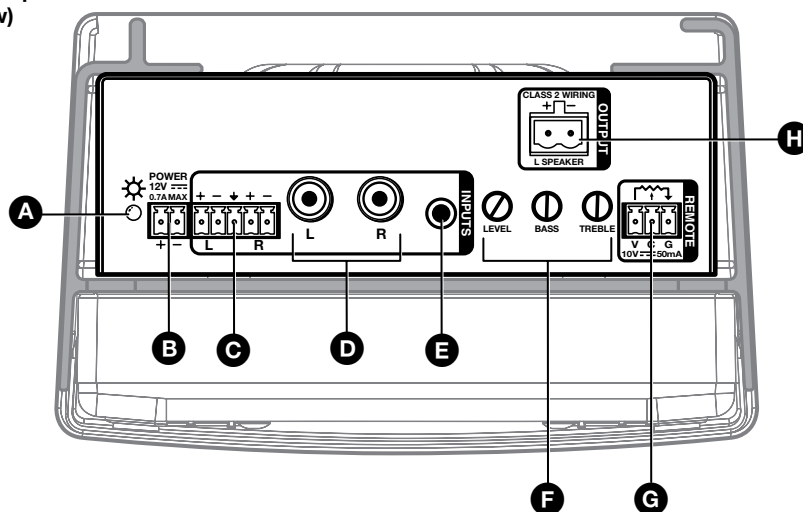
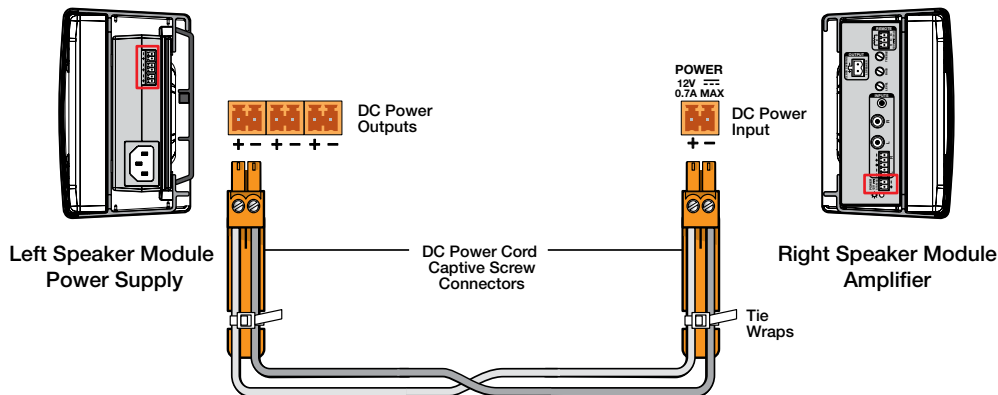

Figure 47. The Front Panel of the SB 33 A Amplifier
Figure 48. Power Supply to Amplifier Cable Connection
- B Amplifier power supply connector** (see figure 47 on page 32) — Connect one end of the DC power cord to one of the two pole, 3.5 mm captive screw outlets on the power supply. Connect the other end into the power receptacle on the rear panel of the amplifier, as shown in figure 48. The power cord connectors are correctly wired when shipped.
- F Level, Bass, and Treble potentiometers** (see figure 47 on page 32) — Three front panel potentiometers are used to optimize input level, bass, and treble settings.